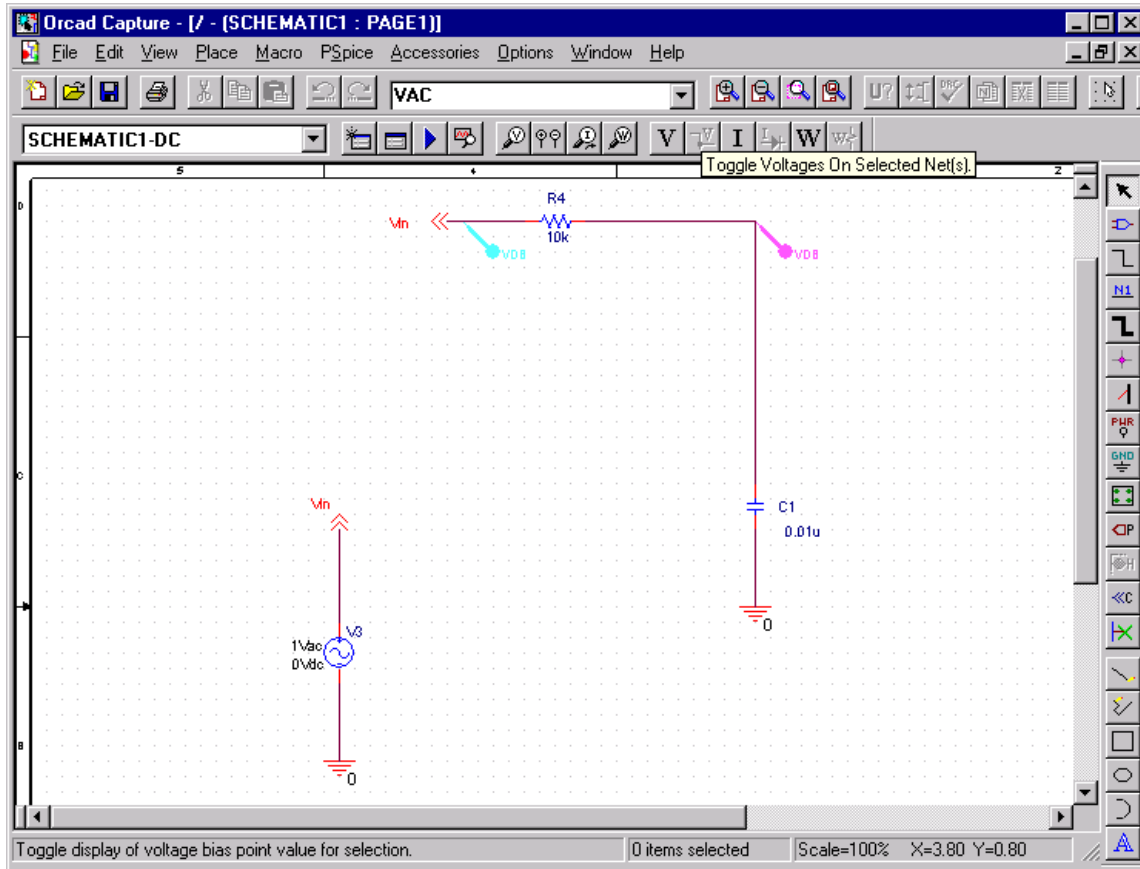

Fig. 4: AC analysis on low pass filter.
In this example, you will set up the low pass circuit for AC analysis by substituting an AC voltage source for a stimulus voltage source (see Fig. 4) and by setting up the AC sweep parameters.
4. Place the AC voltage source on the schematic page, as shown in Fig. 4.